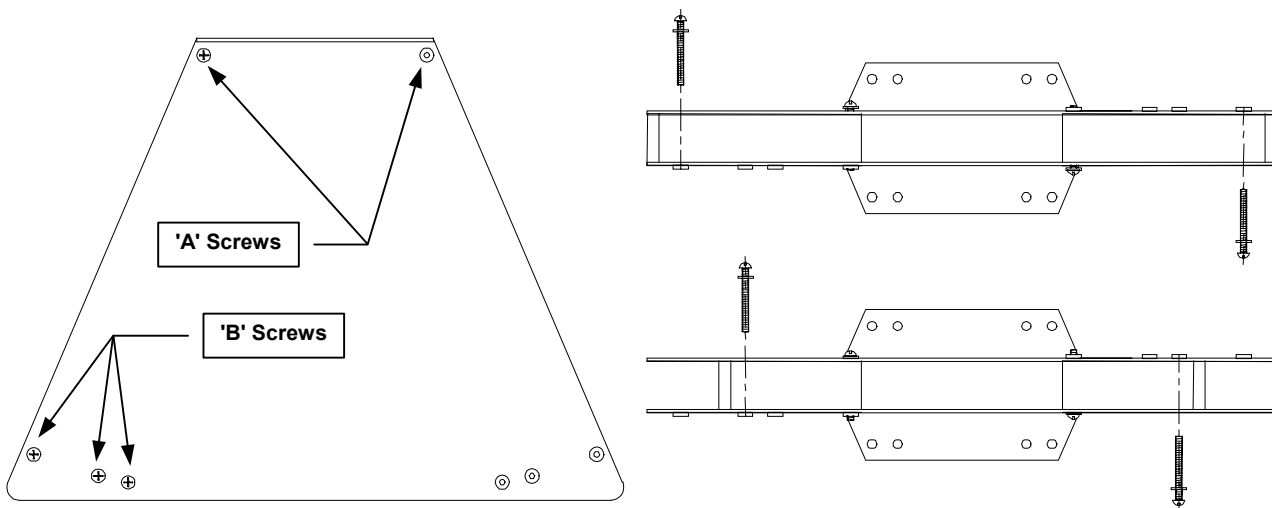

Figure C.6-5: Horn Blinder Adjustment of End Bars
- 2) Determine the separation of the emitter-to-receiver and set the end bars for that separation (Section C.6.a & Figure C.6-5) by loosening the 'A' screws and removing the 'B' screws. Rotate the end bars until 'B' holes line up and insert the 'A' screws. Tighten all screws securely.